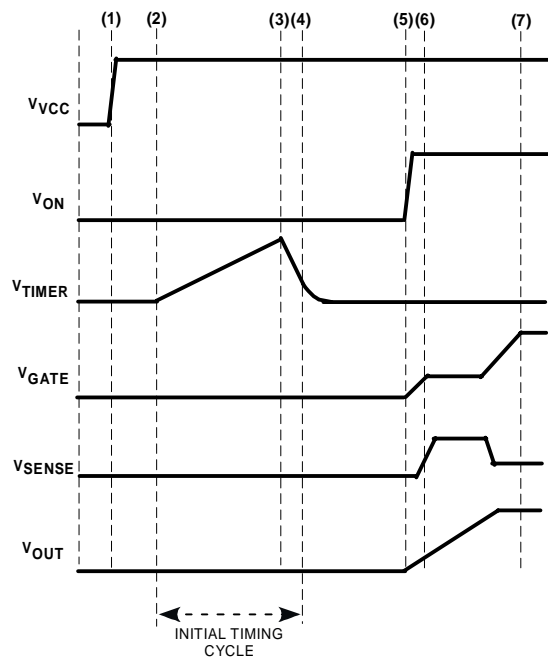

Figure 5. Start-up (ON asserts after power is applied)
charged up with a 12 μA current source. At timepoint (5) the threshold voltage of the FET is reached and the load current begins to flow. The FET is controlled to keep the sense voltage at 100 mV (this corresponds to a maximum load current level defined by the value of R_{SENSE}). At timepoint (6) V_{GATE} and V_{OUT} have reached their full potential and the load current has settled to its nominal level. Figure 5 illustrates the situation where the ON pin is asserted after V_{VCC} is applied.